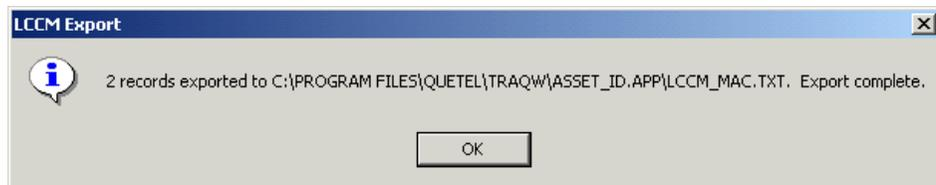

Figure 32. Successful LCCM MAC address export
13. Figure 32 appears showing the status of the number of records exported, file name and location. Make a note of the file name and location and click **OK**.